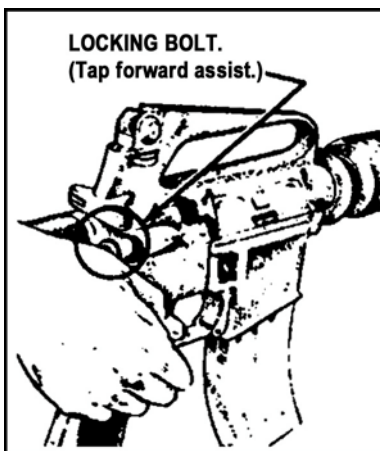

Figure 8. Forward assist.
- (2) Tap the forward assist to ensure that the bolt is fully forward and locked (Figure 8).